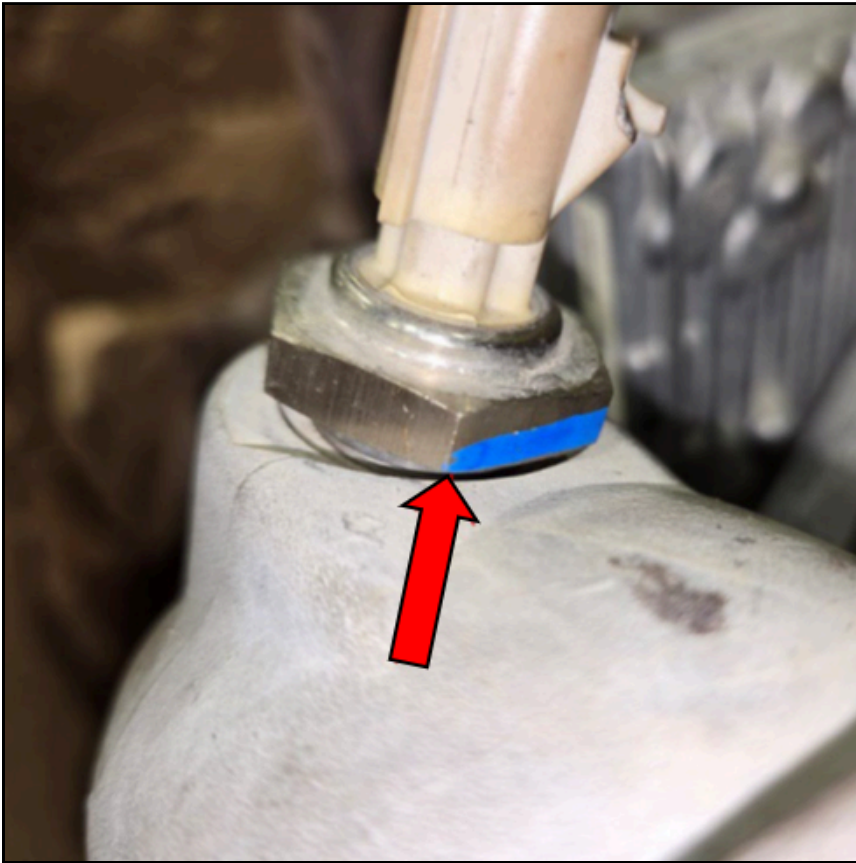

Figure 1. TCOCT Sensor Interference
6. See Figure 1, if the sensor exhibits the same condition (contact with the turbo compressor housing), refer to the SRC Technical Service Bulletin at the provided PDF link for additional details /service_kb/DocTool/Documents/Published/IK1201506/Files/TSB-02-13-25_A26_Turbocharger - file.pdf.